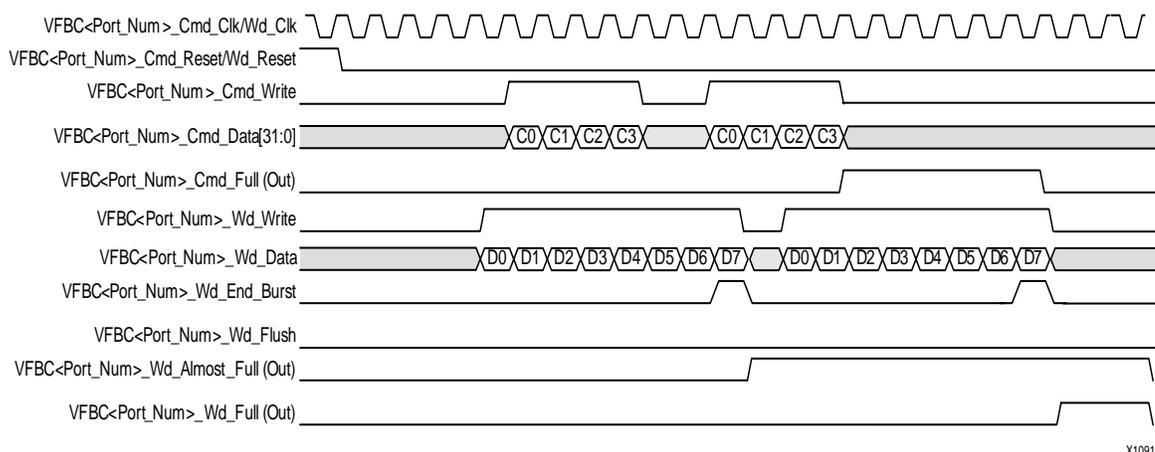

Figure 40: VFBC Write Timing
2. As shown in Figure 40, the command words C0, C1, C2, and C3 are being written during a data write. The command words can be written before, during, or after the data is written.